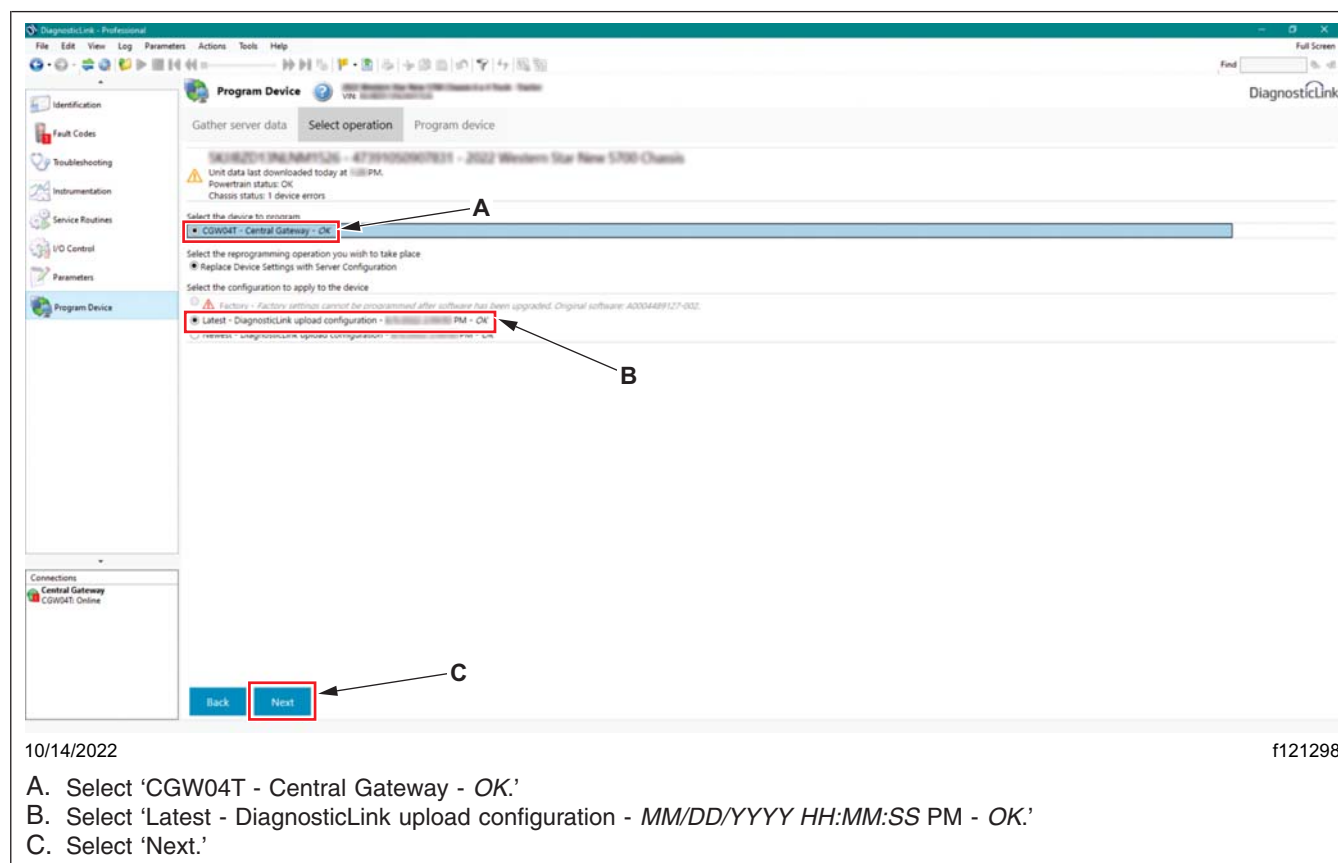

Fig. 15, Selecting the Device Configuration
21.1 Select 'CGW04T - Central Gateway - OK' as the device to program. See Fig. 15.
21.2 Select 'Latest - DiagnosticLink upload configuration - MM/DD/YYYY HH:MM:SS PM - OK' as the configuration to apply to the device. See Fig. 15.
21.3 Select 'Next.' See Fig. 15.